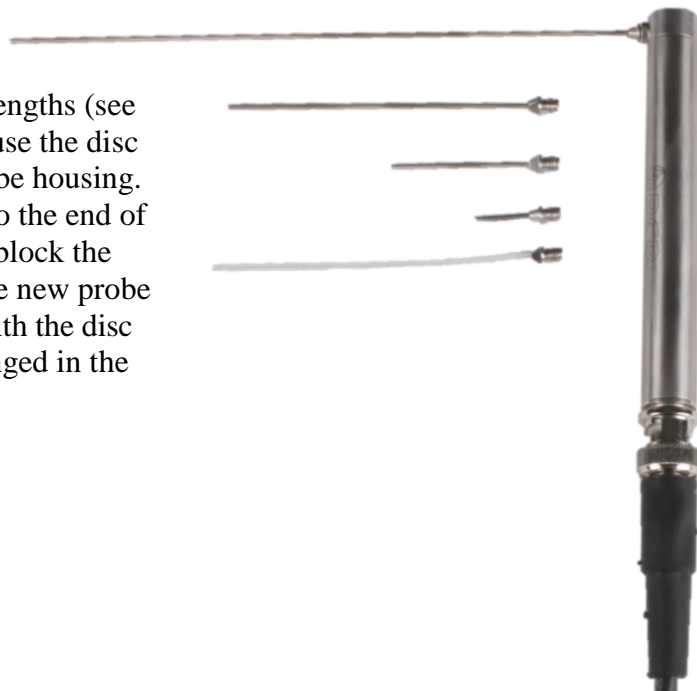

Figure 4: Probe Tips
The Probe Microphone includes four (4) stainless steel probe tips of different lengths (see Figure 4 at right). To change probe tips, use the disc tool to remove the probe tip from the probe housing. Apply a very thin layer of o-ring grease to the end of the new probe tip (be very careful not to block the probe tip hole with the grease). Mount the new probe tip on the probe housing, and tighten it with the disc tool. The flexible tube probe tips are changed in the same way.